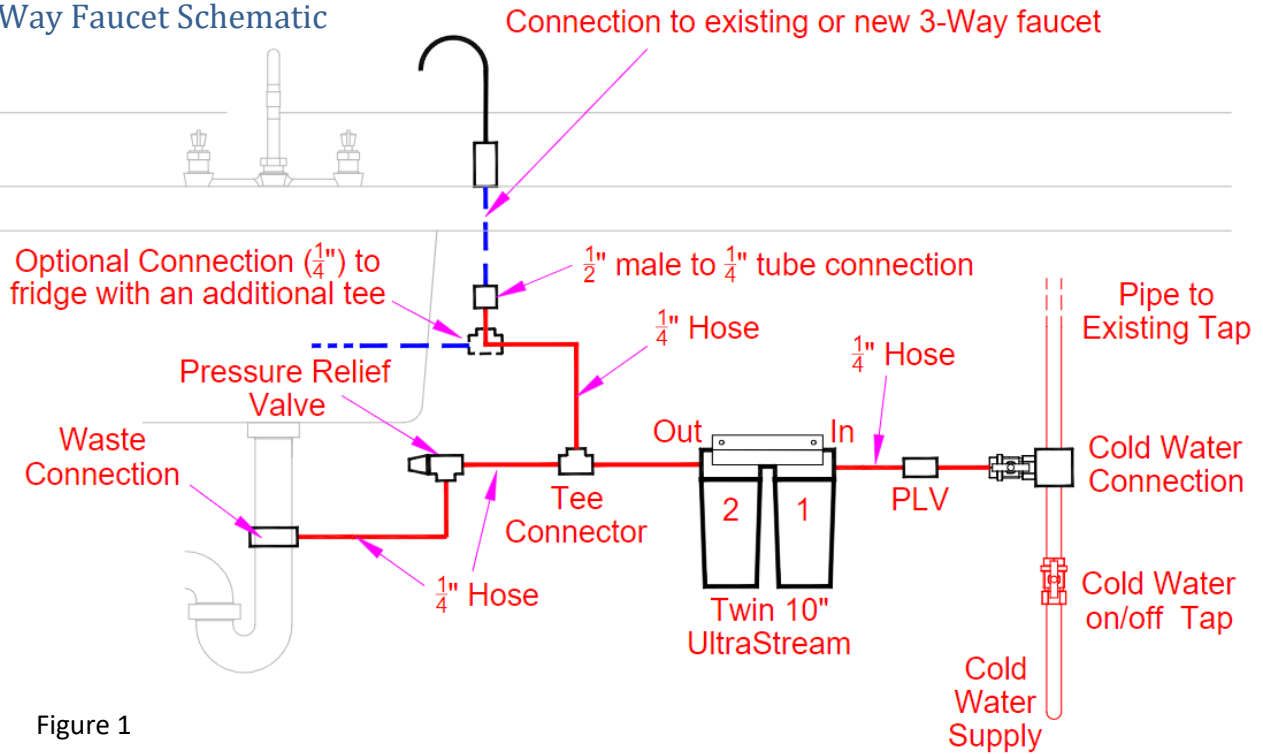

Figure 1
1. Cut a length of 1/4" tube (item 15) long enough to connect the PRV assembly (item 4) to the JG 1/4 " Equal Tee (item 6).
4. Insert the other end of the tube into the JG 1/4 " Equal Tee (item 6) by gently pushing it into place.
5. The open end of the 1/4 " Equal Tee (item 6) is for the connection to the following:
- a. To an existing or new 3-way faucet via an additional 1/2" male to 1/4" connector (item 5). Refer to the 3-Way Faucet Schematic figure 1 on page 2.